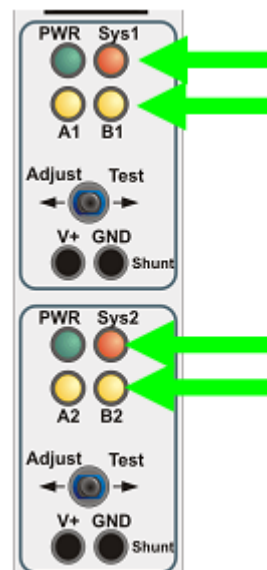

Figure 10 – IMC Board
3.6 Check the LED indications SYS1, SYS2 and B1, B2 are illuminated (Figure 10).